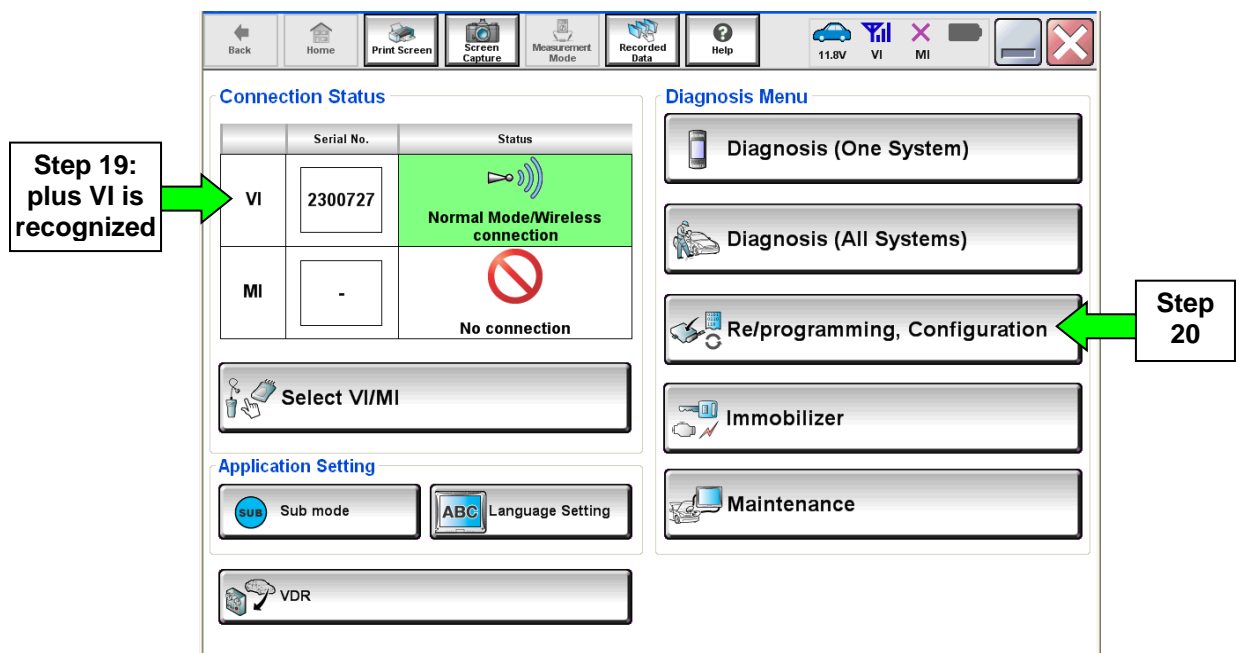

Figure 9
17. Confirm C-III plus is on the Home Screen (see Figure 9).